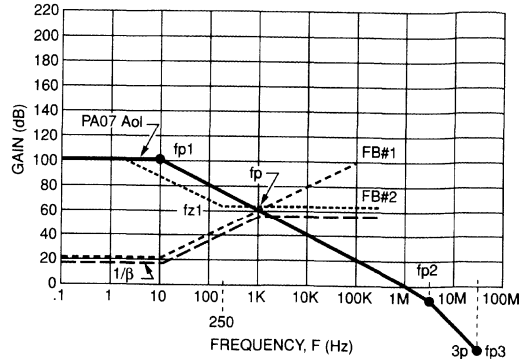
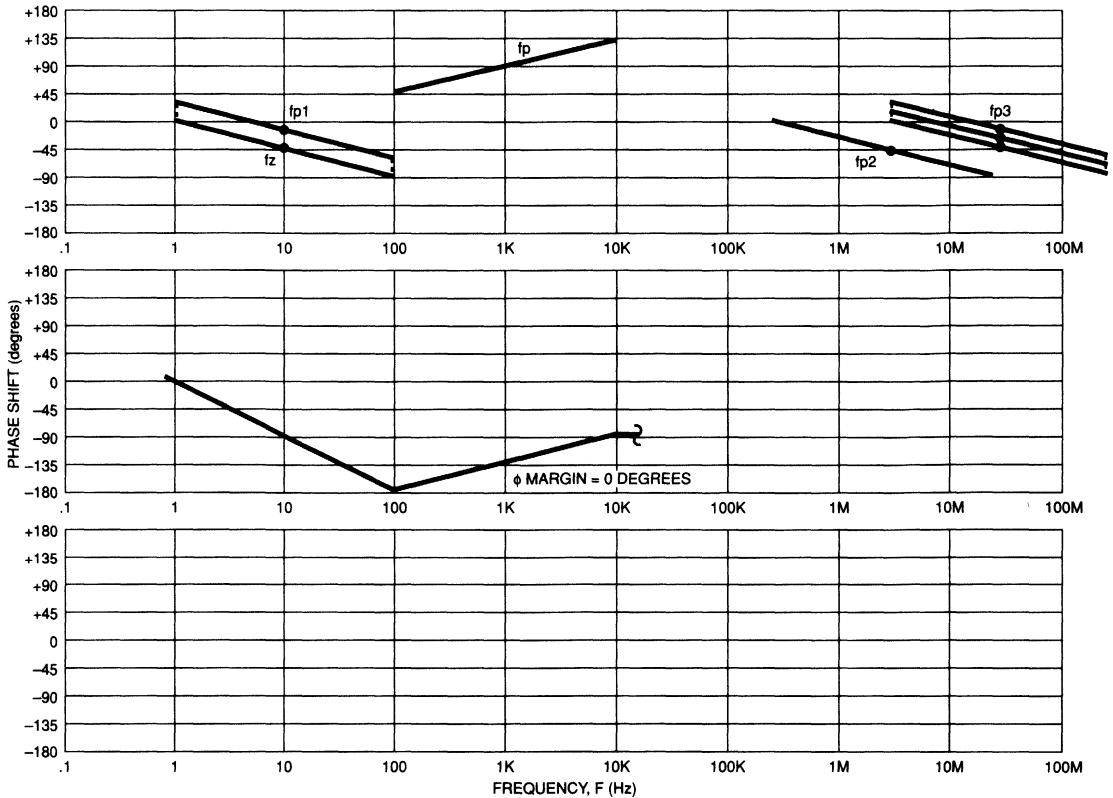

FIGURE 19. FIRST GUESS MAGNITUDE PLOT FOR STABILITY
FIGURE 20. FIRST GUESS OPEN LOOP PHASE PLOT FOR STABILITY
STEP 3: Refer to Figure 19 which repeats PA07 Aol and FB#1. We will add FB #2 to force the high frequency part of the $1/\beta$ curve to flatten out and intersect the PA07 Aol curve at 20 dB per decade. FB #2 will dominate at frequencies above 1 KHz. Although our V-I circuit has two feedback paths, the op amp will follow whichever feedback path is dominant. This means the larger β is, the more voltage is fed back from the output to the -input as negative feedback (Remember $\beta = V_{fb}/V_{OUT}$). With a larger β , $1/\beta$ will become smaller; therefore, the dominant feedback path out of FB#1 and FB#2 will be the lowest gain path.
STEP 4: In Figure 19 the long-dashed line represents the $1/\beta$ feedback path that the PA07 operates in for small signal AC. According to our first order check for stability we see a 20 dB per decade rate of closure indicating a stable design. But let's do our complete stability check by using the $1/\beta$ curve
Figure 20 is the resultant open loop phase plot using the information from Figure 19. After plotting individual open loop poles and zeroes, and drawing the appropriate slopes, we graphically add the slopes to yield a resultant open loop phase as shown in Figure 20. Notice fp3 in Figure 20 is a triple pole. It is easier to plot this as shown in Figure 20 as three poles "on top" of each other. This makes it easier to add graphically for a resultant open loop phase plot. As shown in Figure 20, our open loop phase dips to -180 at 100Hz. Our first attempt at compensation was not successful since we desire at least 45 degrees of phase margin (open loop phase should not dip to less than -135 degrees).